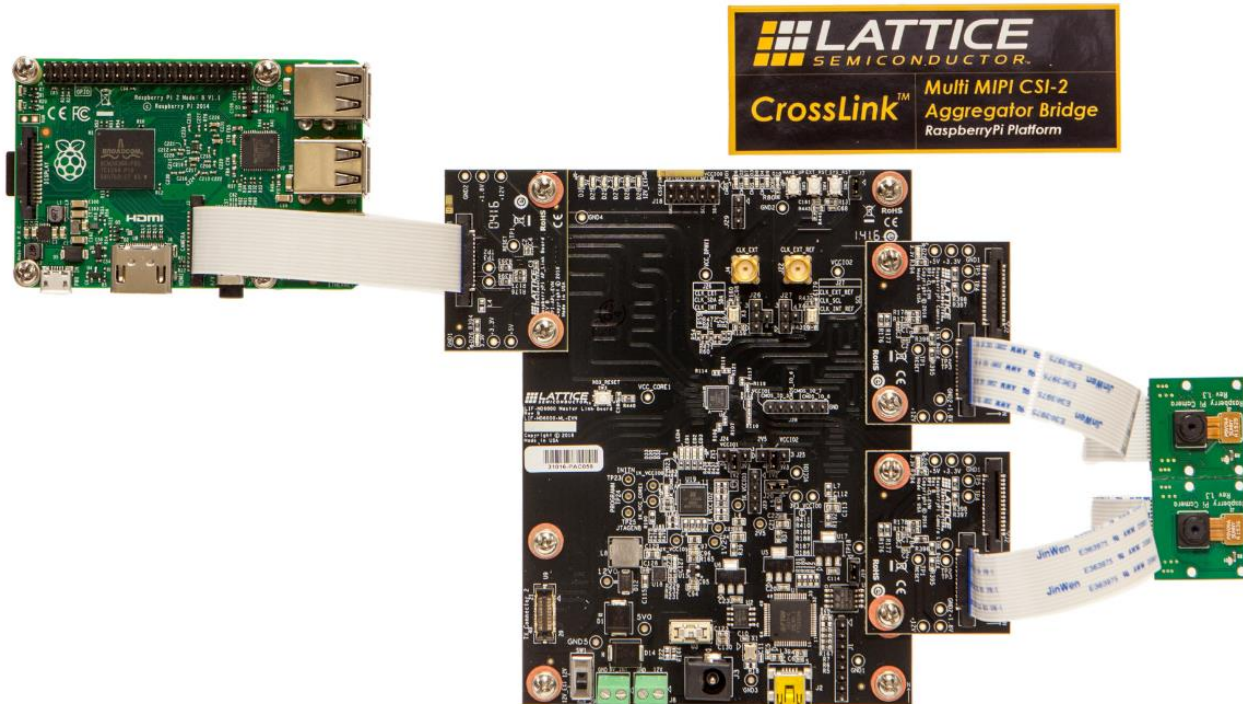

Figure 3.4. Assembled Demo System
4. Fix all the boards tightly with bolts and spacers as shown in Figure 3.4.